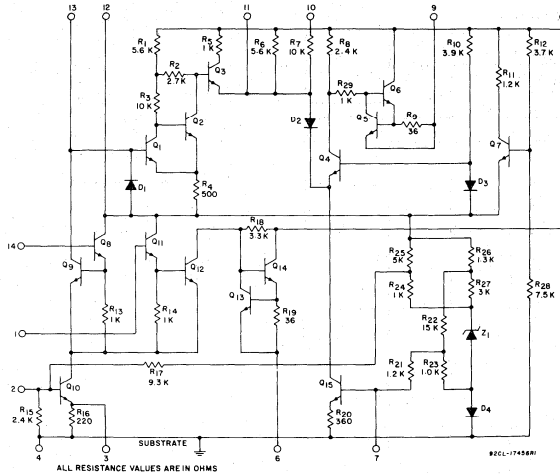

Fig. 6 - Schematic diagram for CA3071.
1. APC ADJUST: With S_2 in "OFF" position adjust the "APC ADJ" potentiometer to set oscillator frequency at 3.579545 MHz $\pm 25\text{ Hz}$. With S_1 in position 1 measure frequency at terminal No. 2 output, using crystal probe shown in Fig. 6.